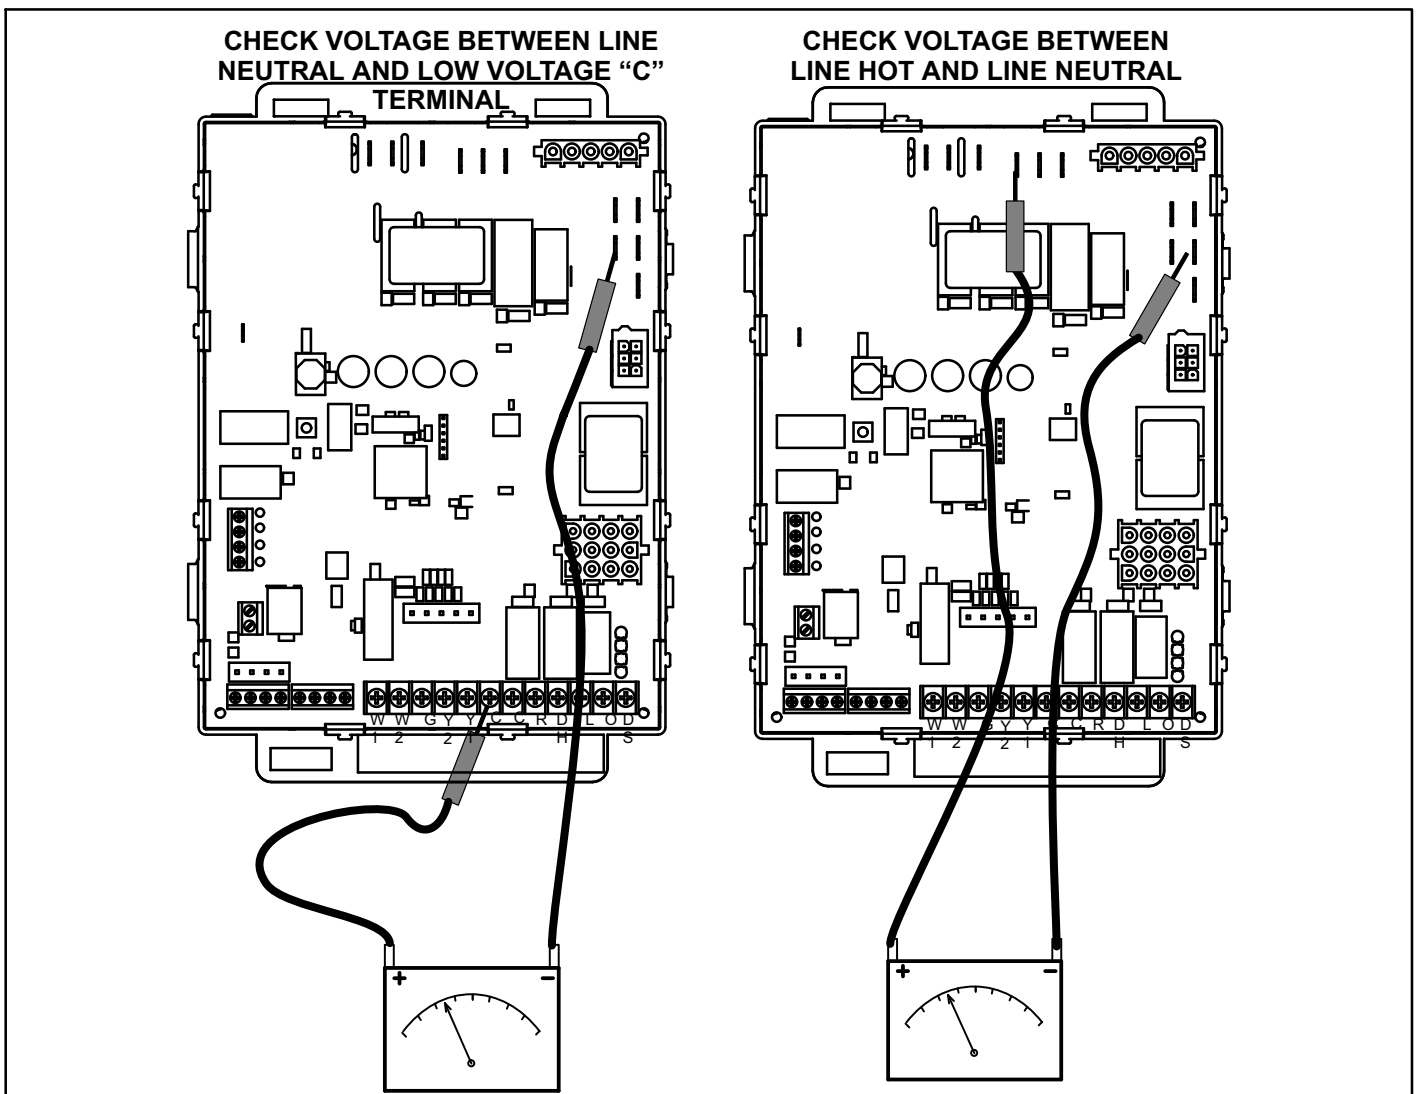

FIGURE 50
- 1 - Measure the AC voltage between Line Neutral (spade terminals) and "C" terminal (low voltage terminal block) on the integrated control. See figure 50. A wide variation in the voltage between Line Neutral and "C" as a function of load indicates a poor or partial ground. Compare the readings to the table below. If the readings exceed the maximum shown in table 1, make repairs before operating the furnace.
- 2 - In addition, measure the AC voltage from Line Hot to Line Neutral (spade terminals) on the integrated control. See figure 50. This voltage should be in the range of 97 to 132 Vac